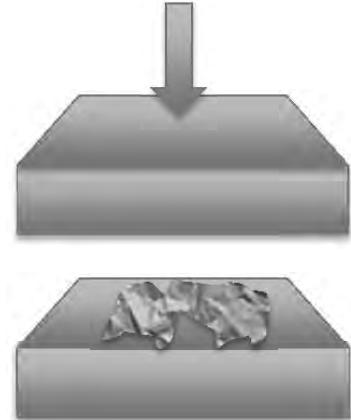

Figure 3: Press configuration
18) In a 100-year-old company, one of the original presses (see Figure 3) is still being used to punch leather patterns for the manufacture of handbags. The operator is sitting down and places large leather pieces in the press by hand, and then actuates the press with a foot switch, which punches out the pattern. The press closes with enough force to crush the operator's fingers or hands.